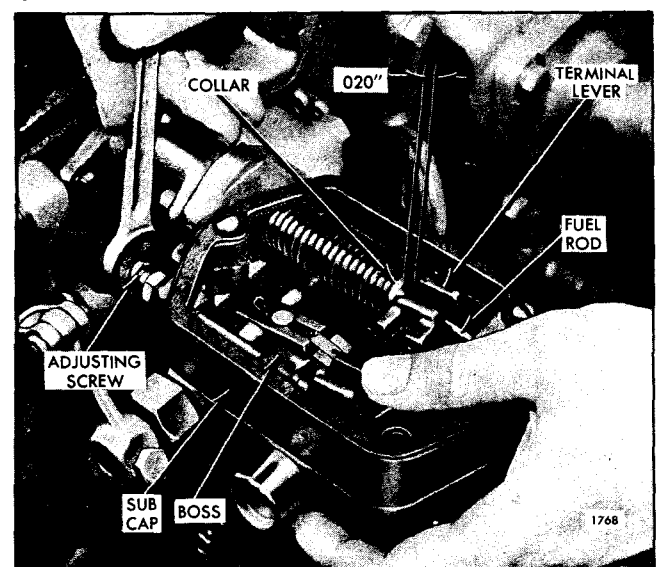

Fig. 3 - Setting Maximum Fuel Adjusting Screw (Load Limit)
1. Place the fuel rod and the terminal lever in the full-fuel position as shown in Fig. 3.